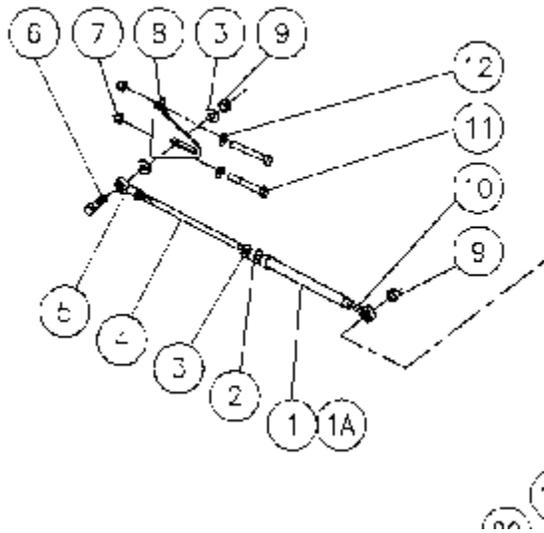

Figure 4
2. In Figure 4, the position of the bolt (item 6) in the slot of the bracket (item 8) determines the sweep's height where?